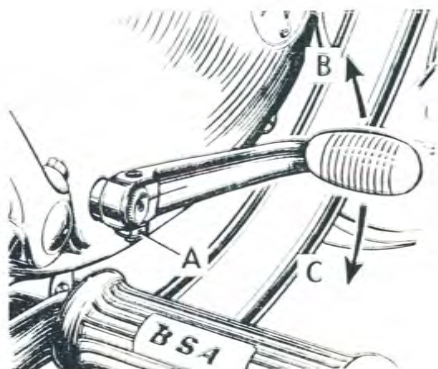

FIG. 6.
Neutral position is between first and second gears, and downward movement (C) Fig. 6, of the lever selects a lower gear, whilst an upward movement (B) Fig. 6, selects a higher one. The pedal can be re-positioned as required after releasing its pinch bolt (A).